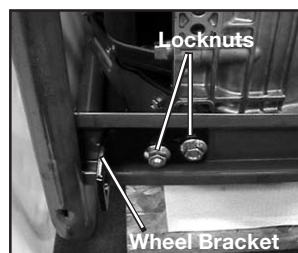

Figure 4
- Using two screws (8) and two lock nuts (9) install the wheel bracket (5) on the bottom left side of the engine support as shown in Figure 4.